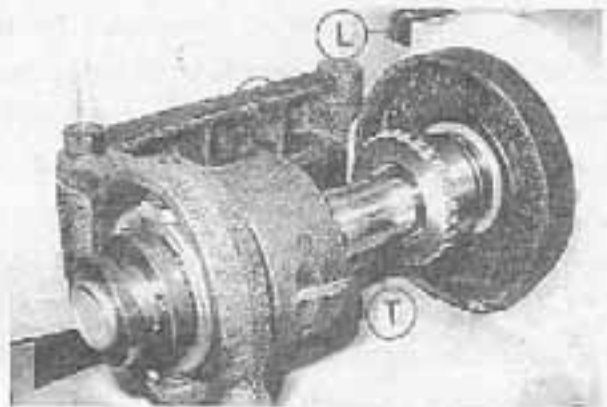

Figure 17 - Collet Closer Removal
Running the machine with the collet closer and not having a collet locked in place will damage the collet closer. Remove the collet closer when using chucks, face plates, or spindle nose type fixtures.The collet closer should be removed often for cleaning to prevent loading of chips between collet closer tube and inside of spindle at rear and collet threads. Removal method is : Pull out pin "L" (Figure 17). Slide draw tube out of the spindle. Do not turn the adjusting nut "N" (Figure 17). It is keyed to the spindle. To remove slide it off the end of the spindle. Do not remove collet closer by removing screw "S"(Figure 17), this screw has been adjusted at the factory for proper operation of the collet closer .
Before replacement of the closer, clean inside of the headstock spindle and outside diameter at rear of spindle where Adjusting Nut "N"(Figure 17) is located. Apply a film of light oil on rear of spindle Do not force Adjusting Nut "N" on spindle. If Adjusting Nut "N" fits to tight, remove and check for burrs or scratches, then replace.Clean collet closer tube inside and out apply a film of light oil on slip surface "T" (Figure 17) of the collet closer tube, replace collet loser and insert Link Pin "L" (Figure 17).
1. Before using collet closer, and any collet or step chuck to be used should be thoroughly cleaned. 2. Push the lock Pin "E" (Figure 4) . To engage lock pin, turn spindle by hand till lock pin enters notch to lock. 3. Press the Closer Adjusting Finger "F" (Figure 16) down to the point "P" (Figure 16). 4. Place collet closer tube on collet or step chuck until engaged. Turn both collet closer tube and shell Guard "G" (Figure 15) forward with the left hand, and hold the collet or step chuck with the right hand at the same time. 5. Place a work piece in collet or step chuck. 6. Place lever "L" (Figure 16) to the extreme left fixed position. Turn the Shell Guard "G" (fig. 16) toward operator until the work piece is clamped by the collet. 7. Place lever "L" to the right, the released position. Turn Shell Guard "G" toward operator, move the Adjusting Finger "F" advance two notches on the adjusting nut "N" (Figure 17) and close Adjusting Finger "F". 8. Test collet closer's tension on work piece. If the work piece needs additional gripping pressure, press down on the adjusting finger "F" and turn Shell Guard "G" forward and lock. (see figure 16)